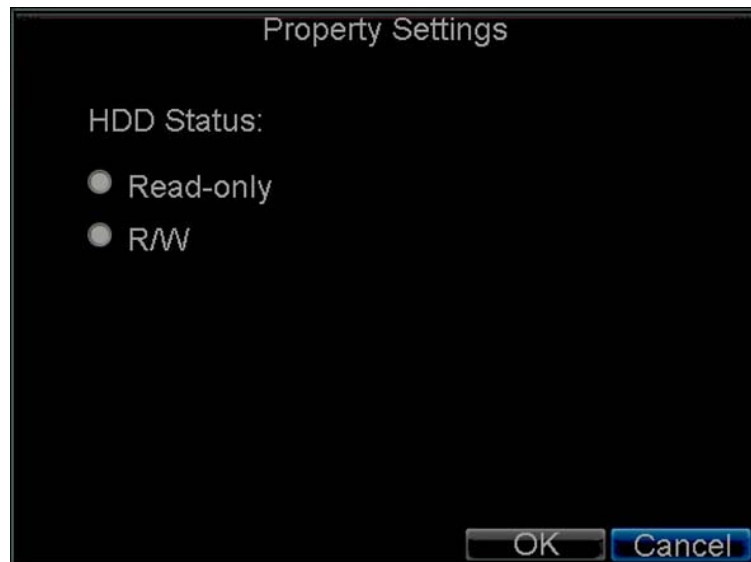

Figure 13.3. HDD Property Settings Menu
- 3) Select the *Property* button to enter the Property Settings menu, as shown in Figure 13.3.